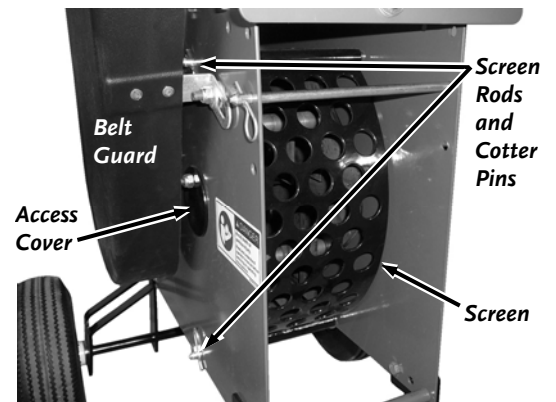

Figure 26
2. Remove the Screen Rods and Cotter Pins to remove the Screen (**Figure 26**).